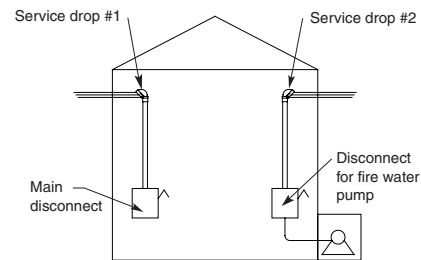

Figure 10-4. A separate service supply is permitted for fire pumps or other emergency electrical equipment.
- A completely separate service is permitted to supply a fire pump or other emergency electrical apparatus, such as lights or standby power, Figure 10-4.